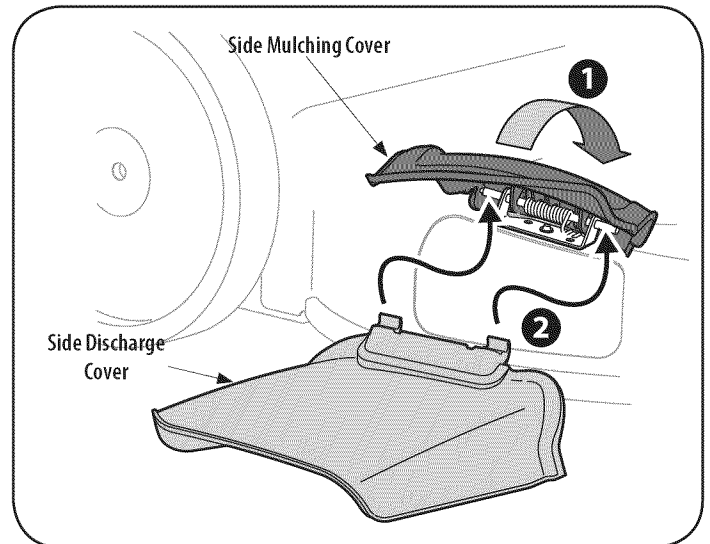

Figure 9
2. Slide two hooks of side discharge cover under hinge pin on mulching cover assembly. See Figure 9. Lower mulching cover. Do not remove side mulching cover at any time, even when you are not mulching.